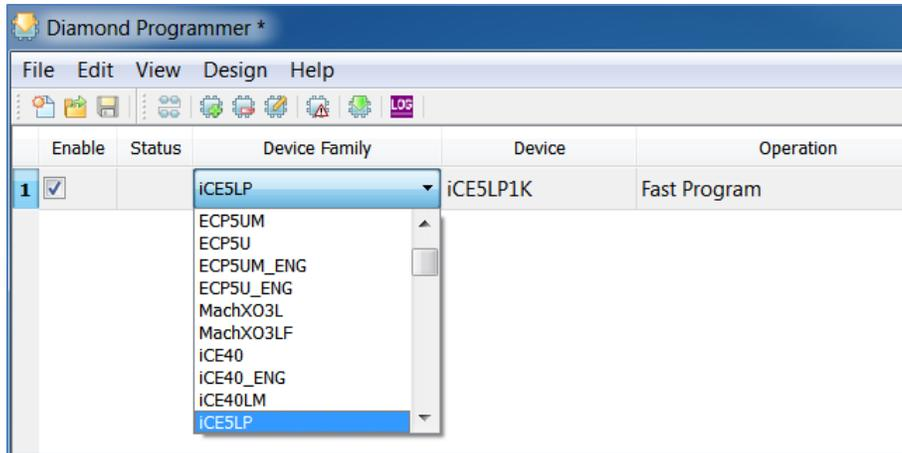

Figure 5.24. iCE Family – Device Family List
2. Manually select the device by choosing the following options as shown in Figure 5.24.